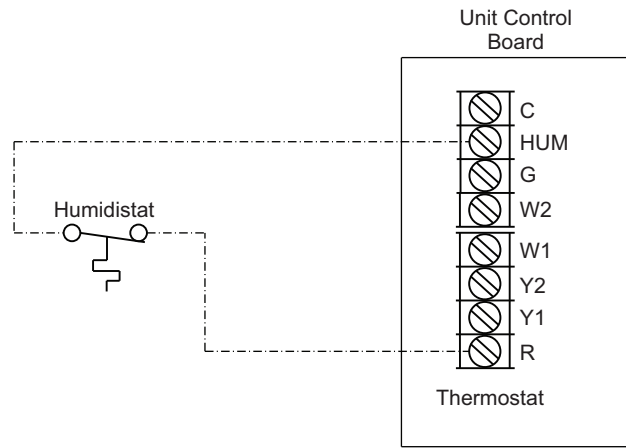

Fig. 36 — Humidistat Connections to UCB
3. Connect one of the leads from the 2-conductor cable to the HUM terminal on the UCB (Unit Control Board). Connect the other lead to the R terminal on the UCB. See Fig. 36.